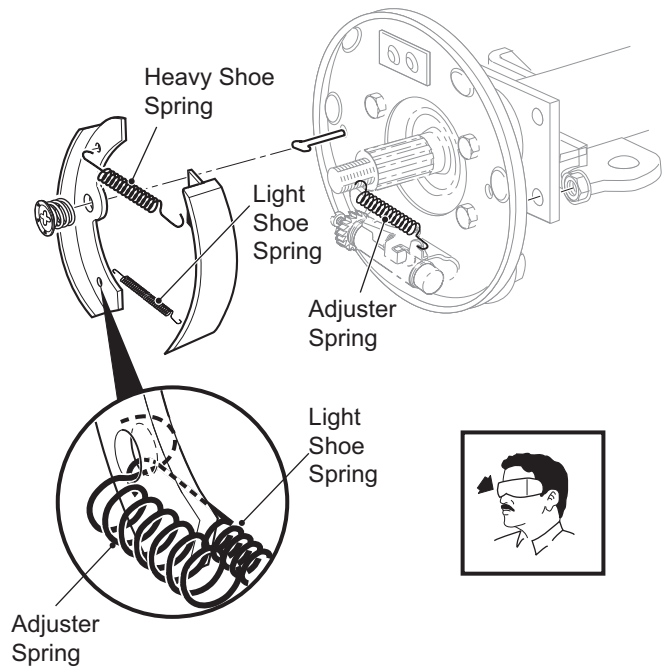

Fig. 16 Orientation of Brake Shoe Springs
- The heavy top spring is installed with both spring hooks installed down through the brake shoes (Ref Fig. 16).